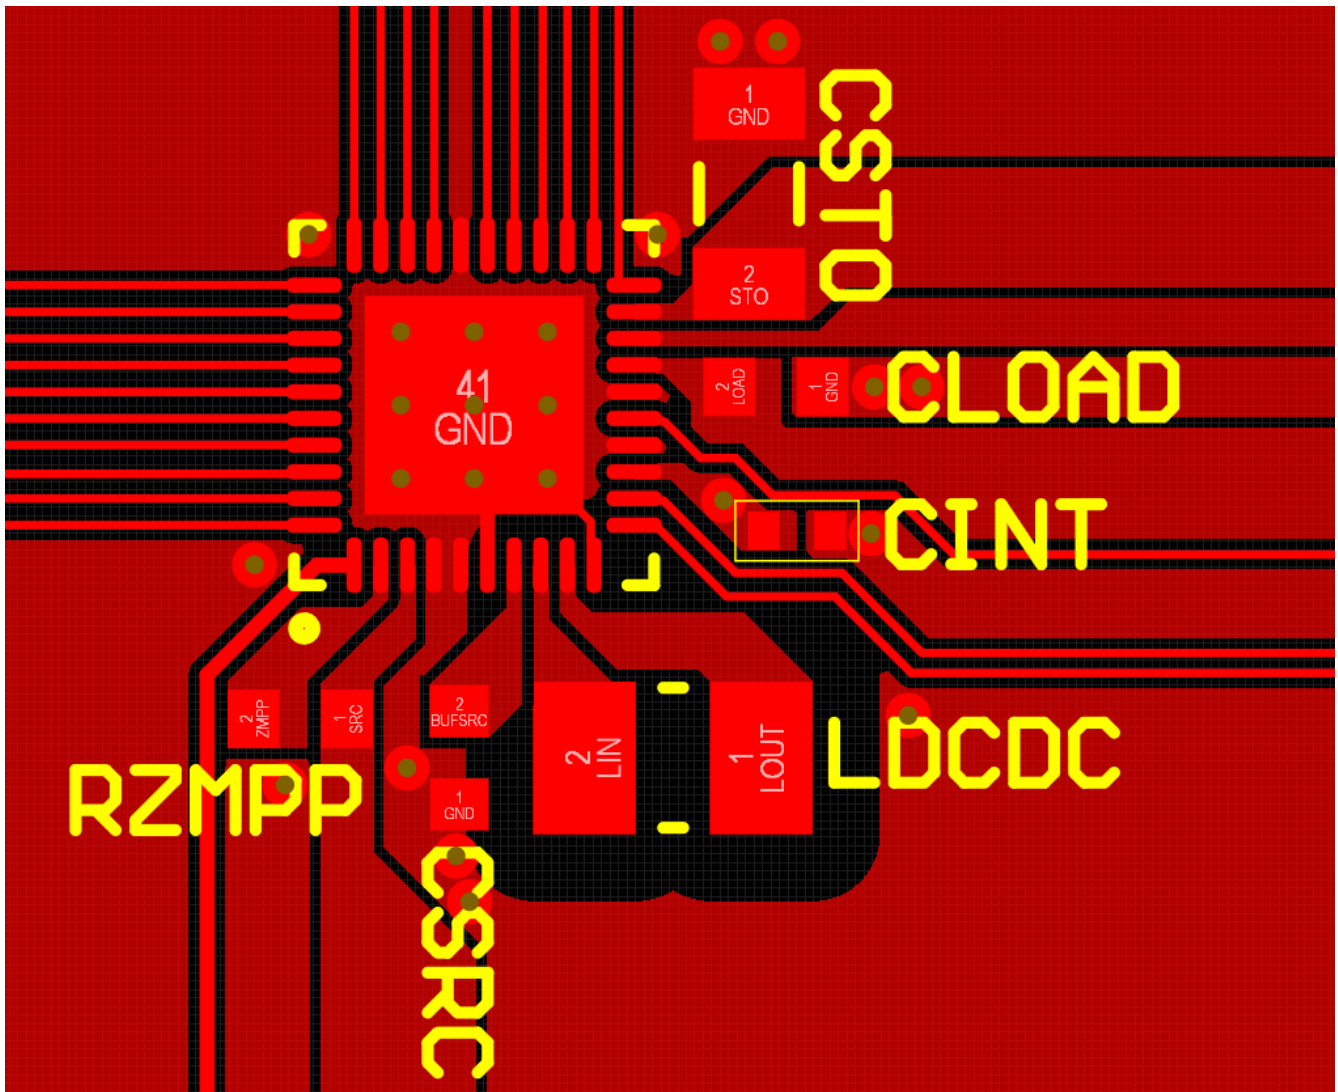

Figure 20: Layout Example for the AEM30330 and its Passive Components
- The switching nodes (LIN and LOUT) must be kept as short as possible, with minimal track resistance and minimal track capacitance. Low resistance is obtained by keeping track length as short as possible and track width as large as possible between L_{DCDC} and the AEM30330 pins. Minimal capacitance is obtained by keeping distance between LIN/LOUT and other signals. We recommend removing the ground plane, the power plane and the bottom layer ground pour under L_{DCDC} footprint, as well as adding distance between LIN/LOUT and the top ground pour, as shown on Figure 20.